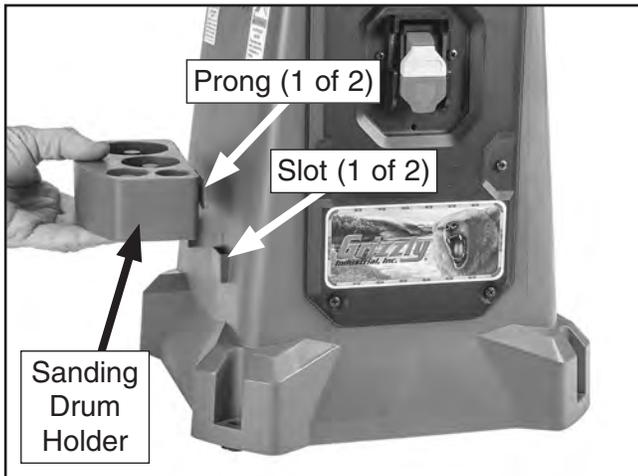

Figure 8. Attaching sanding drum holder.
1. Attach sanding drum holder to left side of spindle sander by sliding prongs into slots, as shown in **Figure 8**.